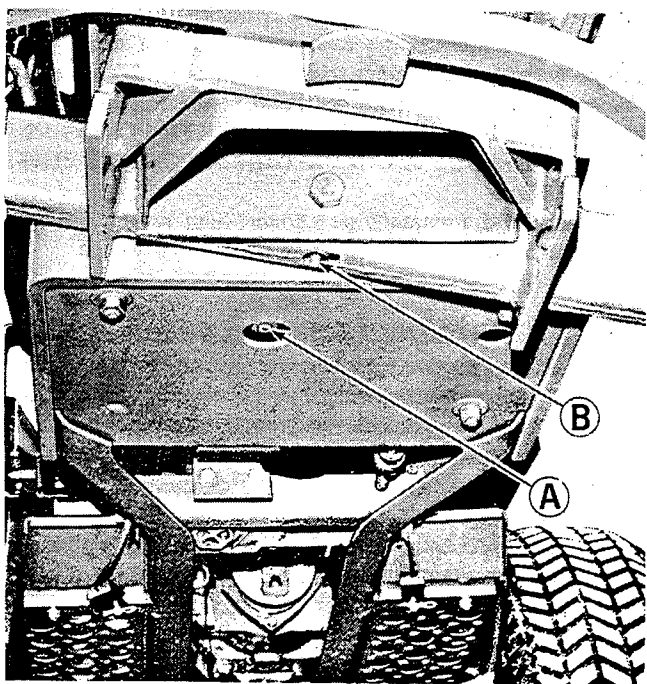

Figure 26. Engine oil drain plug and axle zerk.
**LUBRICATE GREASE FITTINGS:** The basic tractor has three grease fittings which require lubrication. One is located on each of the two front wheel spindles and one is on the front axle pivot (Figure 26, item B). There are two grease fittings on the optional 3-point hitch. Lubricate each grease fittings with five shots of general purpose automotive grease every 50 operating hours. When operating under extremely wet or dusty conditions, lubricate more often.
2. See figure 26. Remove the drain plug (A) from the bottom of the engine base and allow the oil to drain.